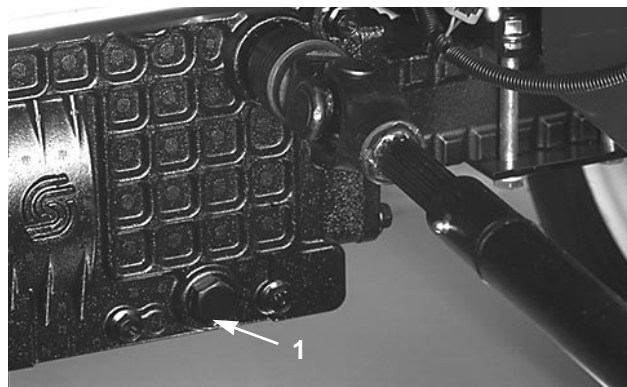

Figure 26
CHANGING THE HYDRAULIC SYSTEM OIL & FILTER (Fig. 26–27))
3. Remove the drain plug from the axle housing and allow the oil to flow into the drain pan (Fig. 26).
6. Install the drain plug in the axle housing (Fig. 26).